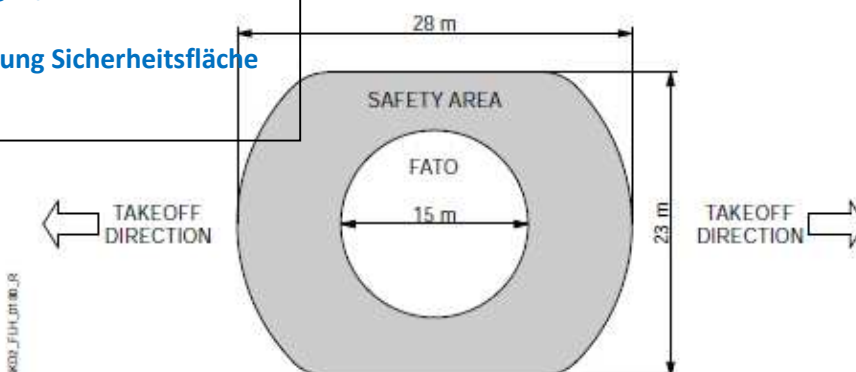

Fig. C3 Safety Area dimensions
- The Safety Area (centered around the middle of the FATO) shall have minimum dimensions of 28 m in diameter. If takeoff and landing is limited to a specific direction, the Safety Area dimensions may be reduced to a width of 23 m in takeoff/landing direction (Fig C3).